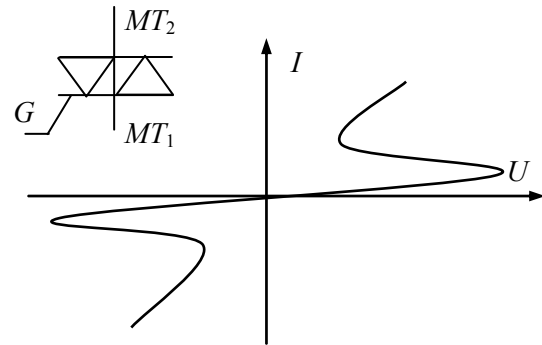

Fig. 1.53
**Triac.** A triac (*bi-directional thyristor*, *simistor*, *tetrode thyristor*) is a three-terminal five-layer device capable of conducting current in both directions. It is identified as a three-electrode ac semiconductor switch that switches conduction on and off during each alternation. Fig. 1.53 gives a typical current-voltage curve and a schematic symbol of the triac. The triac is the equivalent of the two reverse-parallel-connected thyristors with one common gate. Its terminals are marked as  $MT_1$  (main terminal 1),  $MT_2$  (main terminal 2), and G (gate).